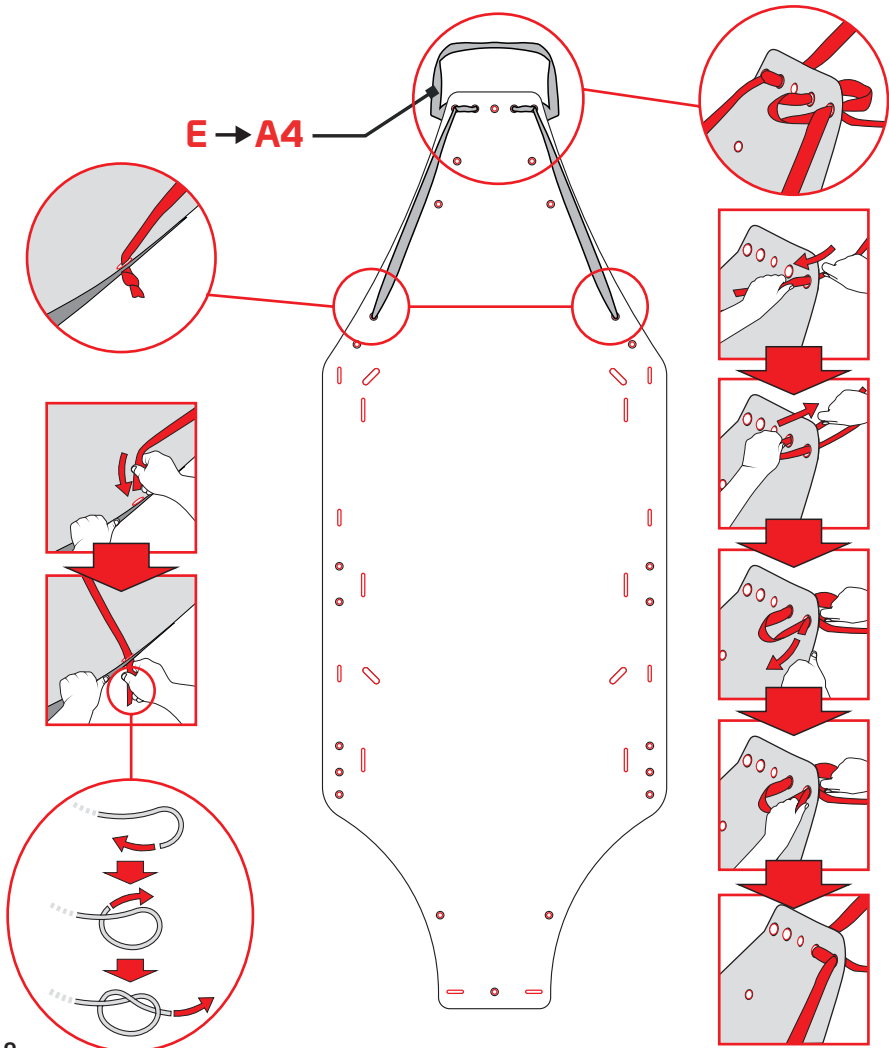

Fig.8
- Insert the sling (E) in the A4 holes in the support surface (fig. 8).